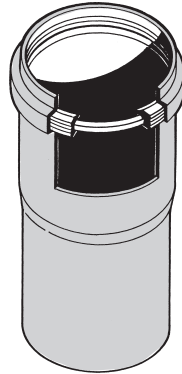

Fig. 1
- 2 Check that the socket seal is in perfect condition (Fig. 1)